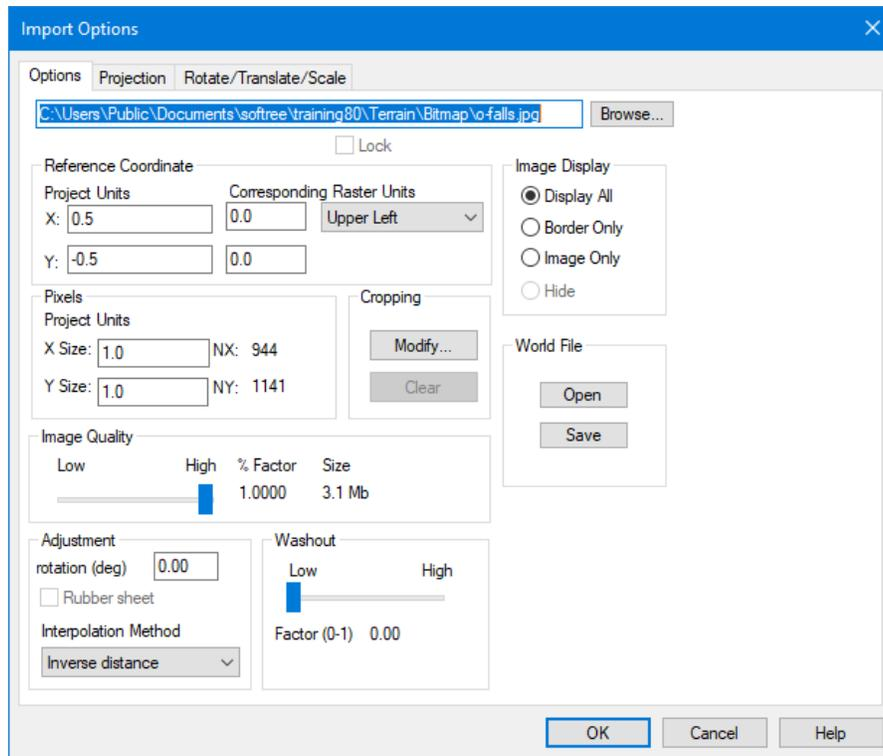

Figure 4-2: Image Import Options Dialogue
12. *Feature Tools* | *Feature Properties* to open the *Image Import Options* dialogue box, as shown in Figure 4-2 above.